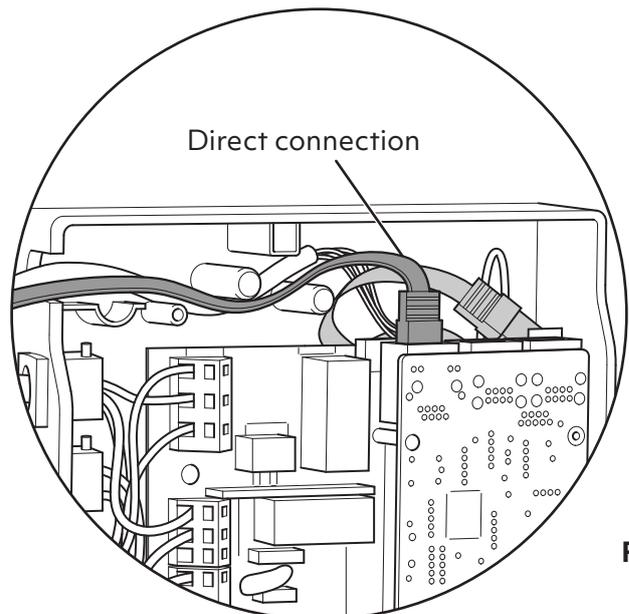

Fig. 21
2. Replace the removed ethernet cable with a suitable direct connection to the network (broadband router/switch) (Fig. 21).